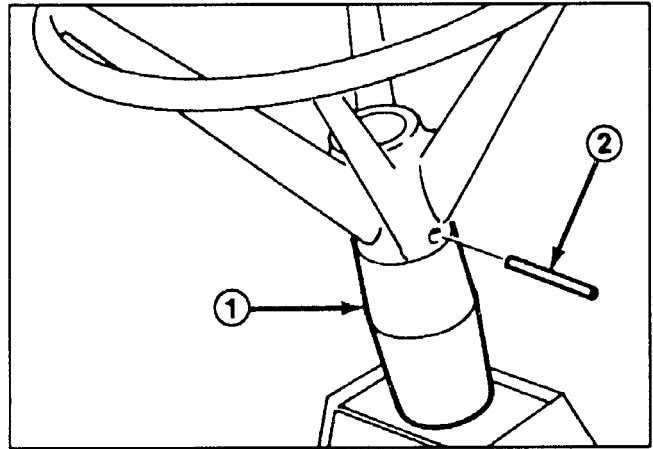

Figure 2
2. Slip the steering wheel over the shaft and line the steering wheel mount hole with the shaft mounting hole (Fig. 2). The TORO logo should be readable from the operator's position.
4. Drive the roll pin in until it is flush with the outside of the wheel (Fig. 2).